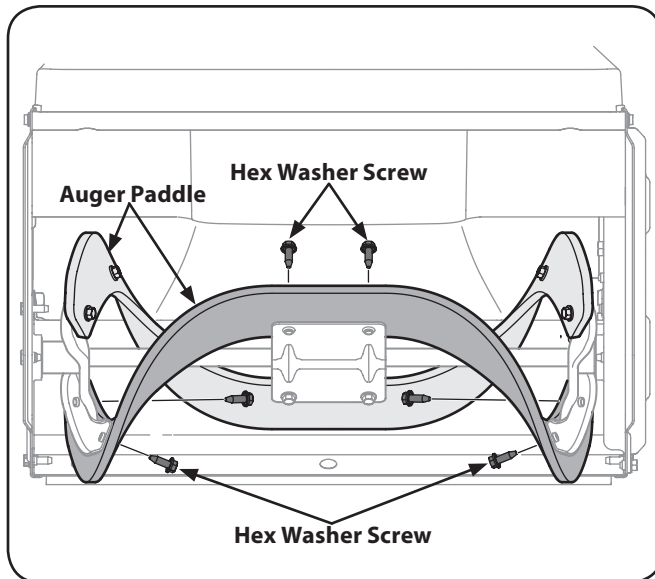

Figure 7-4
1. Remove the existing rubber paddles by unthreading the hex washer screws which secure them to the auger. See Fig. 7-4.